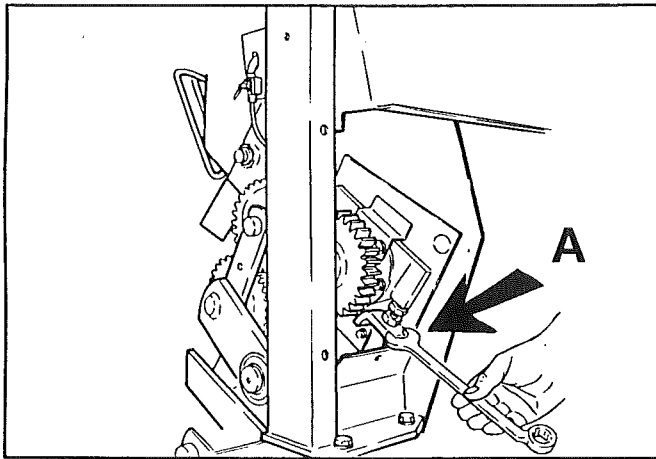

Fig. 19
**FIG. 19** The rollers **must never** touch each other as this will give a bad working result and many vibrations in the machine. The distance between the rollers **must be 5 mm**.